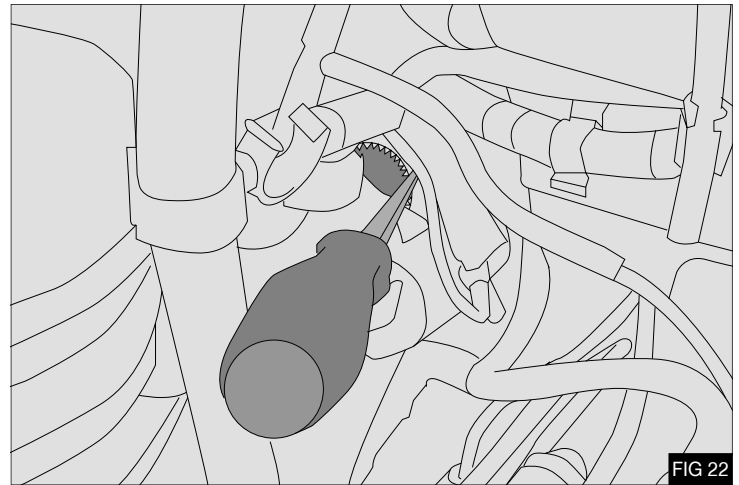

FIG 22
14. Using a suitable tool (large lever bar) against the flywheel gear, lock the engine and remove the bolt securing the crankshaft pulley – discard bolt. - Fig 22